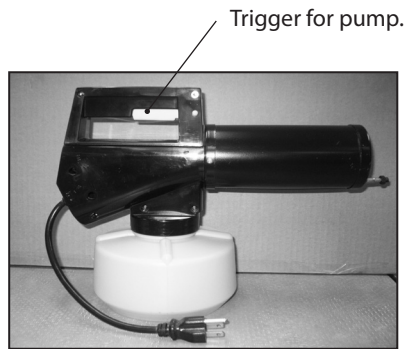

Figure 6
4.) If fog is wet and dripping the pumping rate is too high or it has not reached operating temperature.	4.) Decrease your pumping rate. See Figure 6.
2.) Excessive insecticide output.	2.) Pump with a lower rate. See Figure 6.